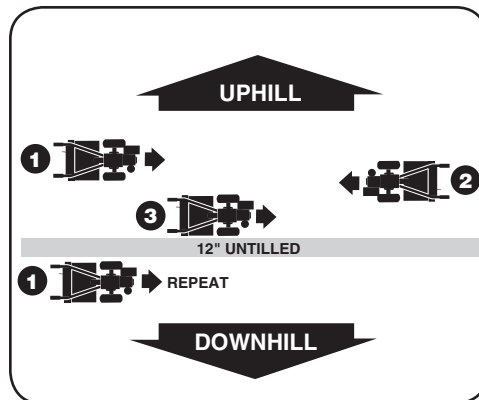

Figure 3-10
- To create a terrace, start at the top of the slope and work down. Go back and forth across the first row as shown in Figure 3-10.